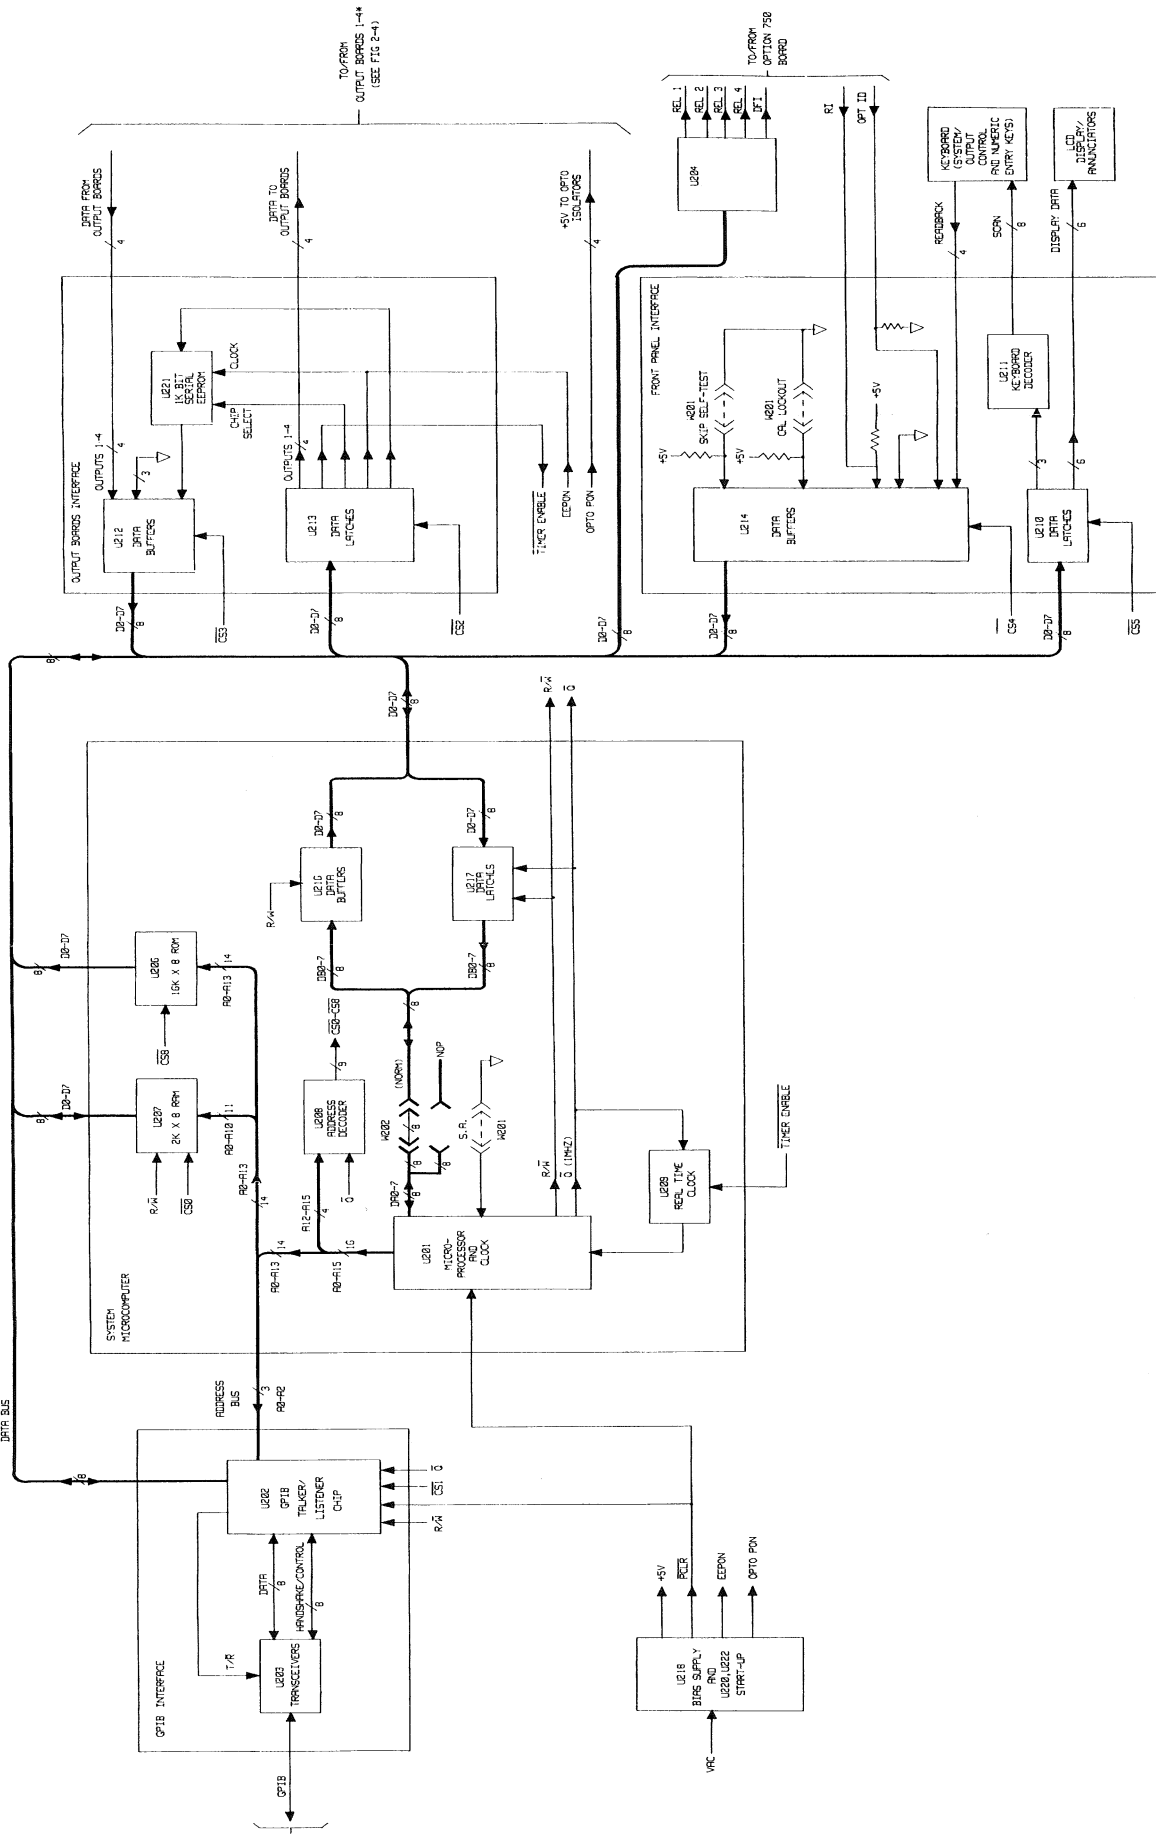

Figure 2-3. GPIB Board Block Diagram
## 2-7 GPIB BOARD (FIGURE 2-3)
Figure 2-3 illustrates the major circuits and signal flow on the GPIB board. Complete circuit details are shown on the functional schematic, Figure 6-2, in the rear of this manual.
The functional names on the block diagram correspond with those on the schematic so that the diagrams can be correlated. As shown in Figure 2-3, the major circuits consist of the GPIB interface, the system micro-computer, the output boards interface, and the front panel interface circuit.
The system micro-computer decodes and executes all instructions, and controls all data transfers. It consists of a microprocessor, an address decoder, RAM and ROM memories, data buffers/latches, and a real time clock as shown in Figure 2-3.
**2-14 Memory(ROM and RAM).** The system microcomputer contains both ROM (U206) and RAM (U207) devices. The 16 K non-volatile ROM contains the operating program and parameters. The 2 K static RAM stores variables voltage to be programmed, output current readback, etc. A third memory chip, shown in the output boards interface block of Figure 2-3, is the EEPROM (electrically erasable programmable memory). The EEPROM (U221) stores all of the system constants including calibration constants, the supply's GPIB address, and model number (see paragraph 2-19).
**2-16 Output Boards Interface** This circuit provides the interface between the system microcomputer and each of the output boards (up to 4) in the power supply. Data is transferred serially one bit at a time between latches/ buffers on the GPIB board and opto-isolators on the output boards. As shown in Figure 2-3, the latches/ buffers use data bus lines D0-D3 to send/ receive data from the applicable output. Data Line D0 is used for output board 1, D1 for output board 2, D2 for output board 3 (if present), and D3 for output board 4 (if present). A controlled and regulated 5 volt line is also generated on the GPIB board to operate part of the opto-isolators on the output boards. In addition to interfacing with the output boards, the latches/ buffers interface with the 1 K bit serial EEPRO in which system constants are stored.